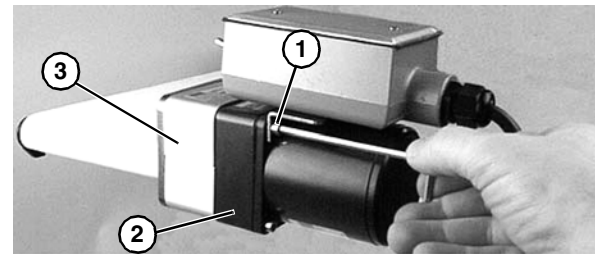

Figure 58
- Remove four (4) screws (**Figure 58, item 1**). Remove gearmotor (**Figure 58, item 2**) and top cover (**Figure 58, item 3**).